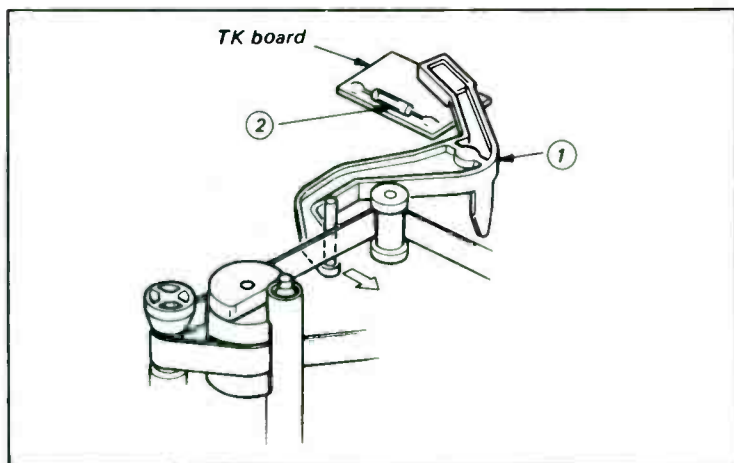

Fig. 5-6. Slack sensing mechanism.
The tape, squeezed by the capstan housing assembly and the pinch roller and fed out at a fixed rate, is taken up with a certain specified torque by the take-up reel assembly. If the torque is lost due to breakage of the belt or other causes, the tape is fed by the capstan housing assembly and the pinch roller but is not taken up by the take-up reel. To prevent the tape from winding around the capstan housing assembly and the pinch roller, the following actions take place: when the take-up torque decreases, the tape slack sensing lever (1) shown in Fig. 5-6 moves in the direction shown by the arrow, thus tripping the reed switch.
When the reed switch (2) acts, the stop solenoid on the function block is energized and the play or record button is released. See Fig. 5-7. The pinch roller is then disengaged from the capstan housing. At the same time the microswitch (4) is pushed by the stop solenoid to be turned off when the stop solenoid is energized, and the ac motor stops. The capstan housing and the take-up reel stop their rotation, and the tape is not taken up. If the play or the record button is depressed in this state, the safety mechanism functions in such a manner that the tape is not wound because the tape slack sensing lever assembly (1) (Fig. 5-6) senses the slack, a function button is released, and the ac motor and the drum do not rotate.